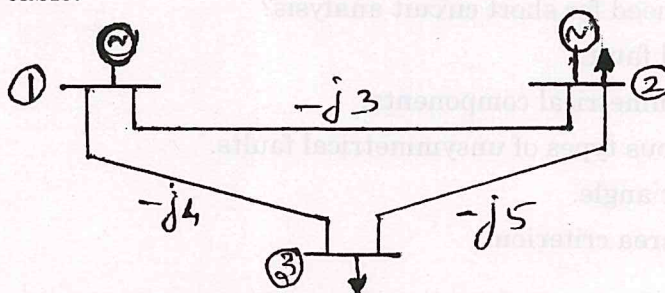

Fig. 12(b)
- (b) A three bus power system is shown in Fig. 12(b) and its data's are given in the table.